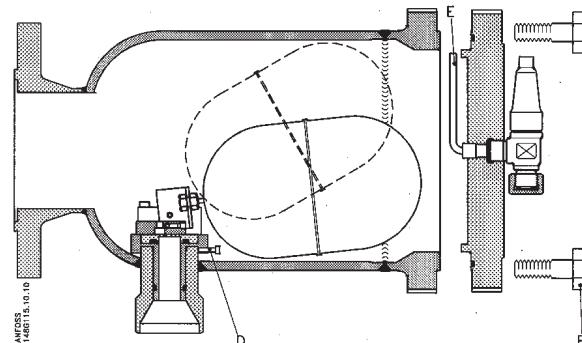

Fig. 4
- 3) Remove float valve assembly by untightening the screw pos. D (fig. 4) and lifting up the complete float valve assembly.
branch and tighten the screw pos. D (fig. 4).
NB! The ventilating pipe pos. E (fig. 4) has to be placed vertically up-wards.
- 6) Use a torque wrench to tighten the screws pos. F (fig. 4). Tighten with torque of 300 Nm (220 Lb feet).